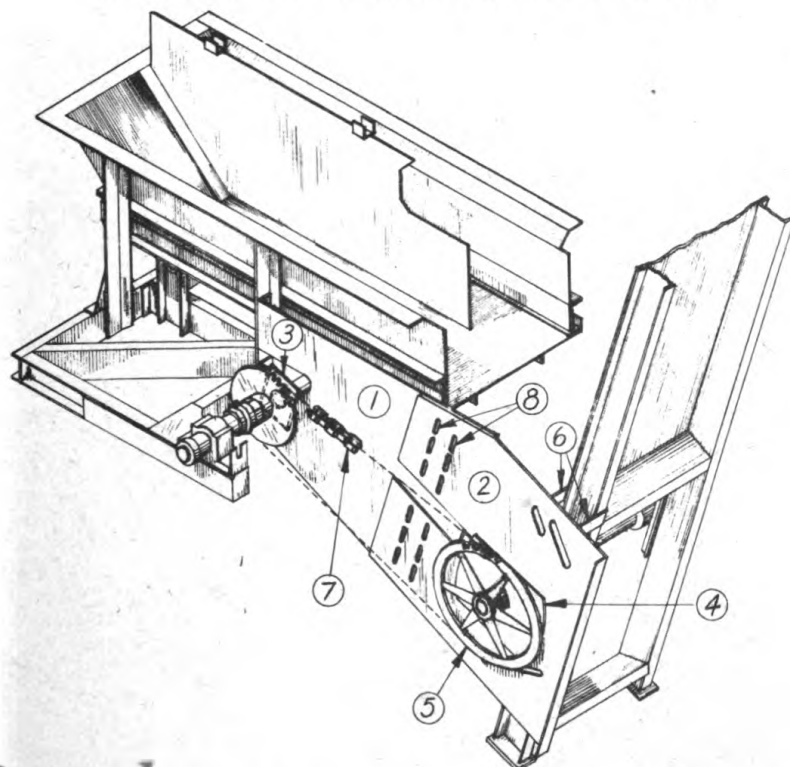

FIG. 49 - INSTALLATION OF FEEDER DRIVE GUARD PLATE.
4. Installing Guard Plate (See Fig. 49)
5. Installing Drive Chain (See Fig. 49)